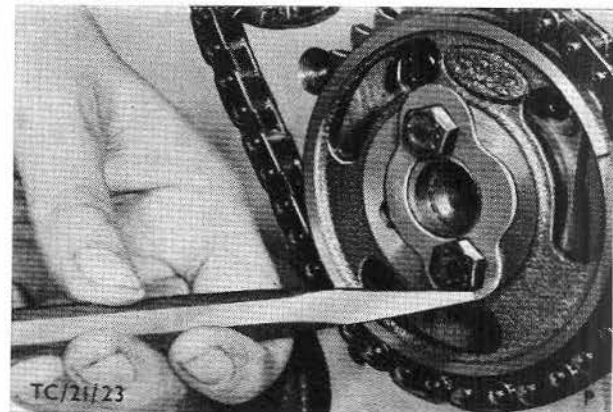

Fig. 28. Camshaft gear lock tab.
22. Bend over lock tabs, remove two bolts and detach camshaft gear complete with timing chain, Fig. 28.